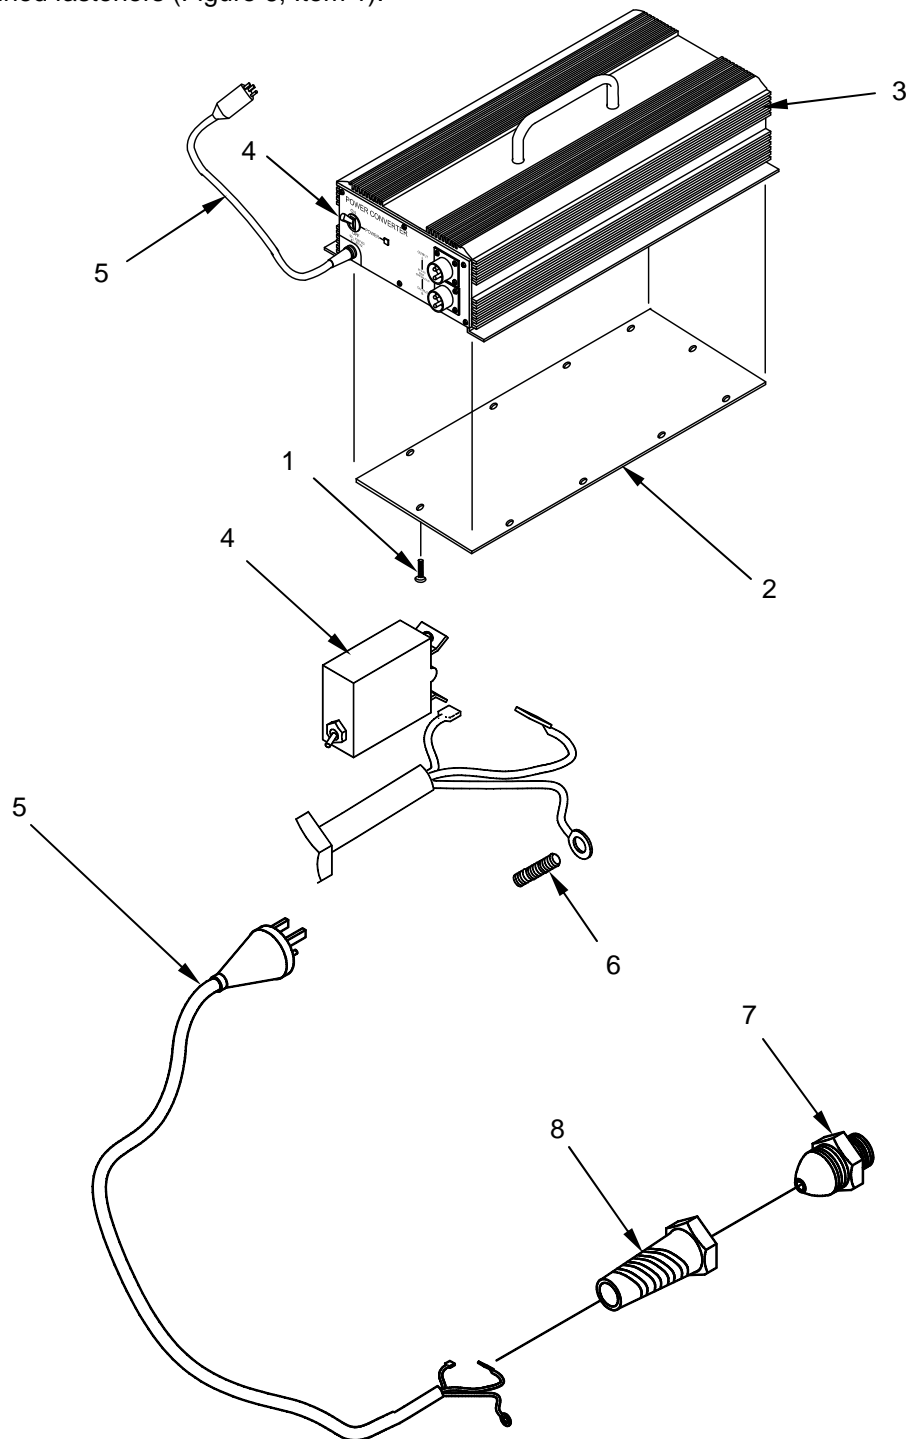

Figure 6. Replace the Power Cord (MS0160).
1. Disconnect the power converter (Figure 6, Item 3) from the power source.
2. Remove the fasteners (Figure 6, Item 1) that secure the bottom cover (Figure 6, Item 2) of the power converter (Figure 6, Item 3). Retain the fasteners and cover for reassembly.
3. Remove the main power switch (Figure 6, Item 4) as detailed in “Replace the Main Power Switch (MS0160)” section of this WP.
4. Take note of the color of the power cord (Figure 6, Item 5) wires and where they are connected, to ensure that the cord is reconnected properly. Tag wires as necessary (one lead has been disconnected in the removal of the main power switch).
5. Tag and disconnect the remaining “BLUE” power cord (Figure 6, Item 5) wire.
6. Locate and remove the hex nut on the grounding stud (Figure 6, Item 6) and remove the power cord (Figure 6, Item 5) ground wire.
7. Loosen and remove the inner plastic hex nut of the securing collar (Figure 6, Item 7) on the inside of the power converter front panel that secures the power cord strain relief (Figure 6, Item 8).
8. Pull the entire power cord assembly (Figure 6, Item 5) out of the power converter (Figure 6, Item 3).
9. Separate and remove the strain relief (Figure 6, Item 8) and the securing collar (Figure 6, Item 7) from the power cord (Figure 6, Item 5).
10. Slide the strain relief (Figure 6, Item 8) and the outer section of the securing collar (Figure 6, Item 7) over the replacement power cord (Figure 6, Item 5).
11. Insert the terminal end of the power cord (Figure 6, Item 5) through the hole in the front panel of the power converter (Figure 6, Item 3) and through the inner plastic hex nut of the securing collar (Figure 6, Item 7).
12. Install the power cord ground wire on the grounding stud (Figure 6, Item 6) and secure with the hex nut.
13. Connect the “BLUE” power cord (Figure 6, Item 5) wire as tagged.
14. Reinstall the main power switch (Figure 6, Item 4) as detailed in “Replace the Main Power Switch (MS0160)” section of this WP.
15. Secure the inner plastic hex nut (Figure 6, Item 7) onto the outer section of the securing collar (Figure 6, Item 7).
16. Secure the strain relief (Figure 6, Item 8) to the outer section of the securing collar (Figure 6, Item 7).
17. Reinstall the bottom cover (Figure 6, Item 2) of the power converter (Figure 6, Item 3) and secure with the retained fasteners (Figure 6, Item 1).